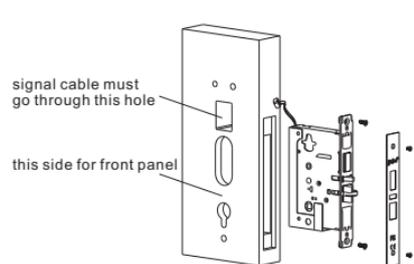

figure 2.4b
(2).fix the mortise with 2 ST4.8*19 tapping screws. (figure 2.4b)